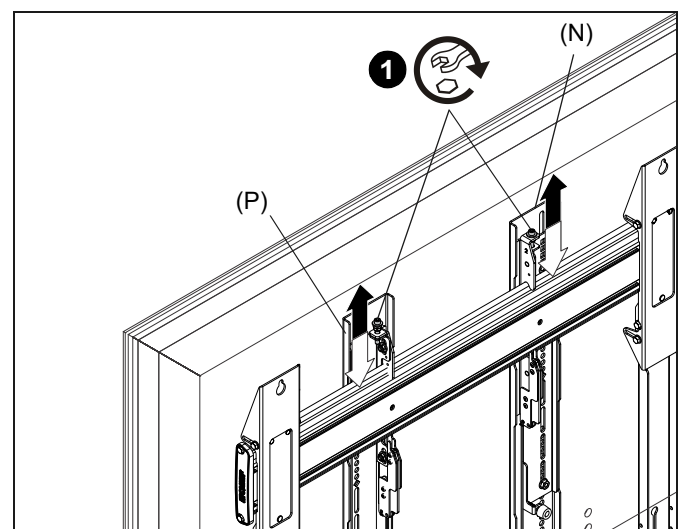

Figure 25
1. Use upper screws on back of interface brackets (N and P) to adjust the height and level of the display. (See Figure 25)